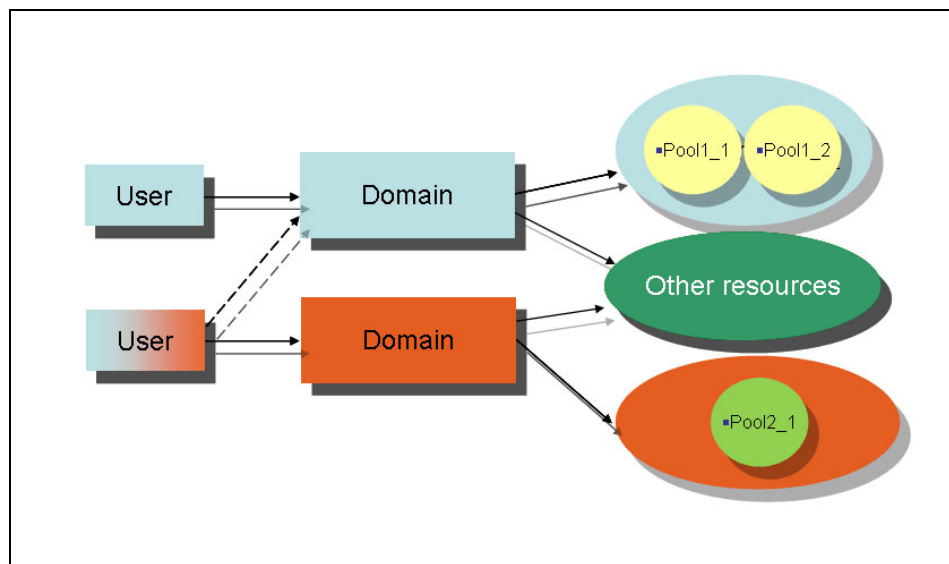

Figure 2-16 User view of domains and resources
- ▶ A domain restricts the resources that a user can manage. A user can manage only the parts of the system that are associated with the domains that the user is associated with, as depicted in Figure 2-16.